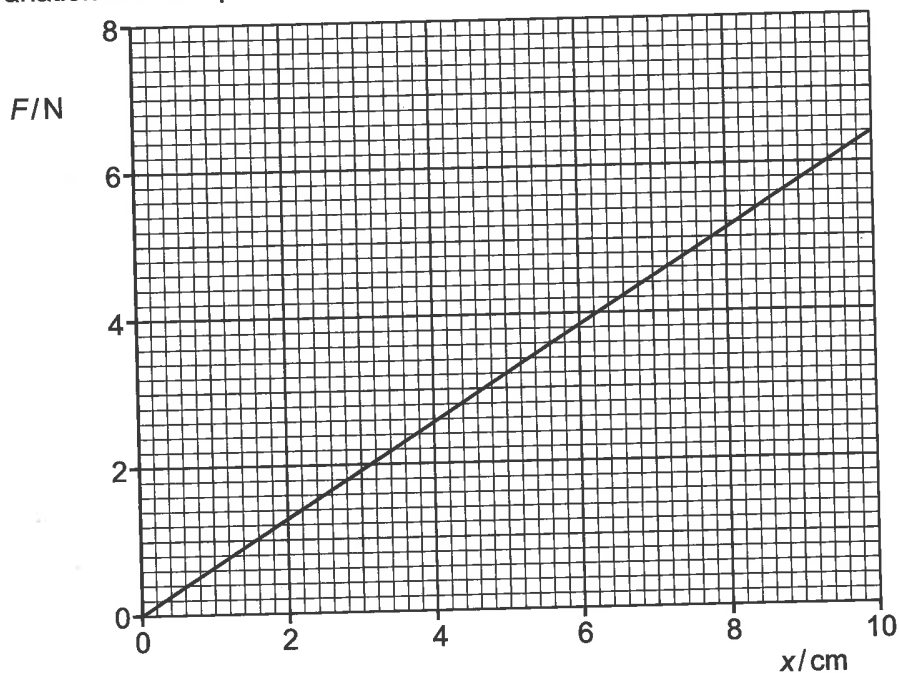

Fig. 2.4
The variation with compression x of the applied force F for the spring is shown in Fig. 2.4.
- (iii) Use Fig. 2.4 to determine the spring constant k of the spring.